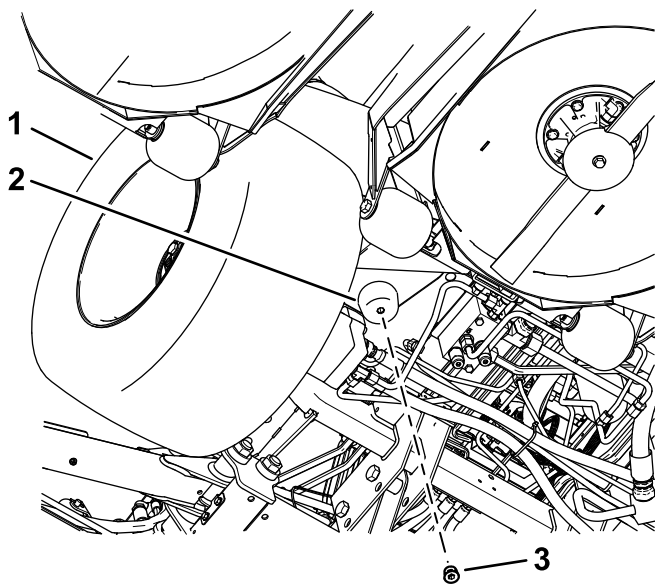

Figure 54
3. Remove the drain plug and allow the fuel to drain (Figure 54).
6. Install the drain plug and torque it to 17.5 to 19.3 N·m (155 to 171 in-lb); refer to Figure 54.